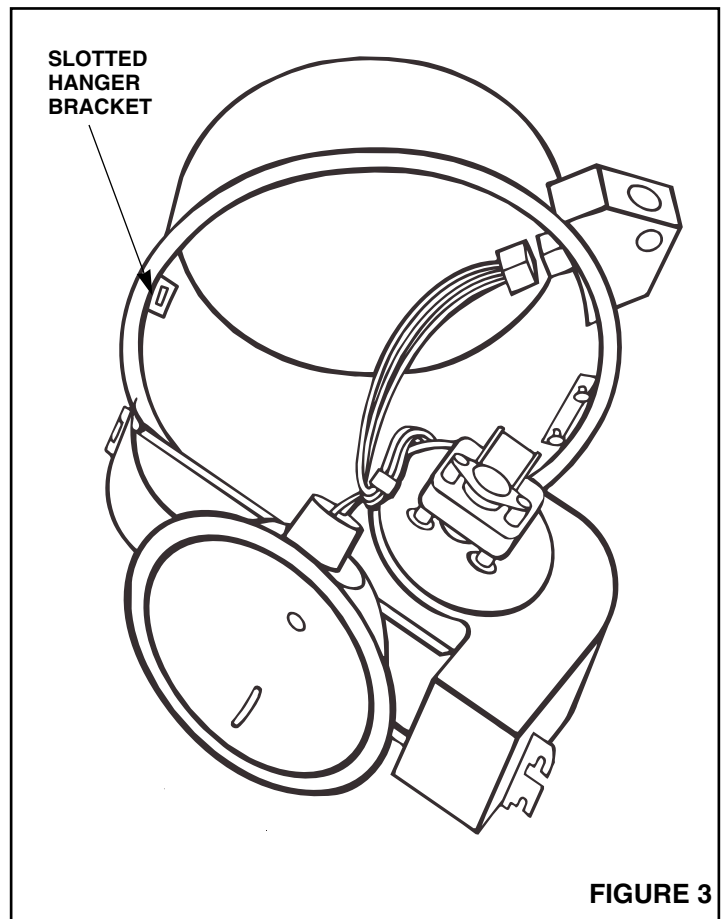

FIGURE 3
1. Refer to **Figure 3**. Insert hooked hinge on power unit to hanger bracket in rough-in housing.